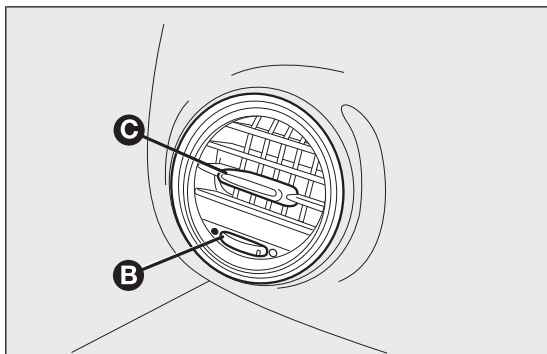

fig. 27
**B** Air flow adjustment control fig. 27:
**C** Lateral and vertical air flow adjustment control. fig. 27